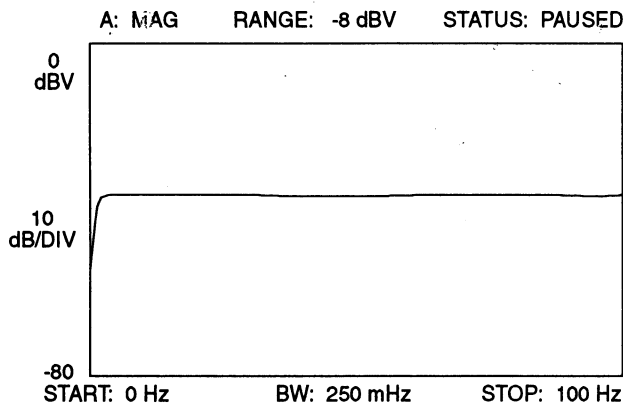

Figure 8. Mod Comp Frequency Response Waveform
Step 7. Compare the trace on the DSA with Figure 8. The frequency response curve may not be exactly the same, but it is adjusted later in this procedure. Your main concern is that it is not a noisy trace.
Step 9. Compare the trace on the DSA with Figure 8. The frequency response curve may not be exactly the same, but it is adjusted later in this procedure. Your main concern is that it is not a noisy trace.